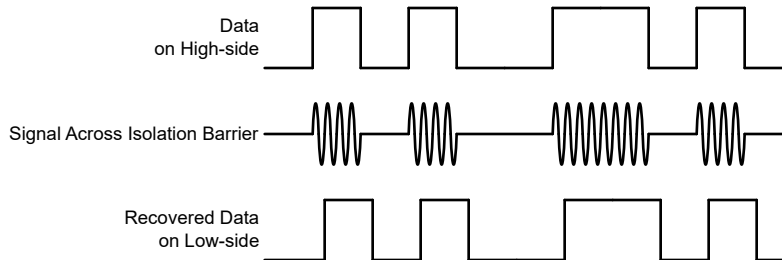

Figure 7-4. OOK-Based Modulation Scheme
The AMC23C15 uses an on-off keying (OOK) modulation scheme, as shown in Figure 7-4, to transmit the comparator output states across the SiO₂-based isolation barrier. The transmit driver (TX) shown in the *Functional Block Diagram* transmits an internally-generated, high-frequency carrier across the isolation barrier to represent a digital *one* and does not send a signal to represent a digital *zero*.